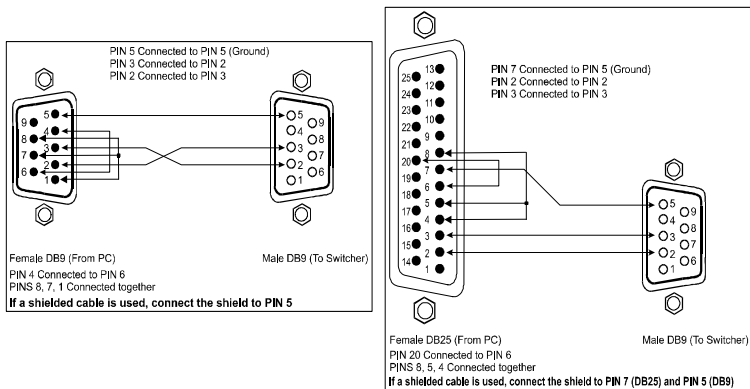

Figure 2: Connecting a FC-6801 Unit to a PC without using a Null-modem Adapter
- Connect the RS-232 DB9 port on your PC to the RS-232 DB9 rear panel port on the **FC-6801** unit, as Figure 2 illustrates (depending on whether the PC has a 9-pin or 25-pin connector)